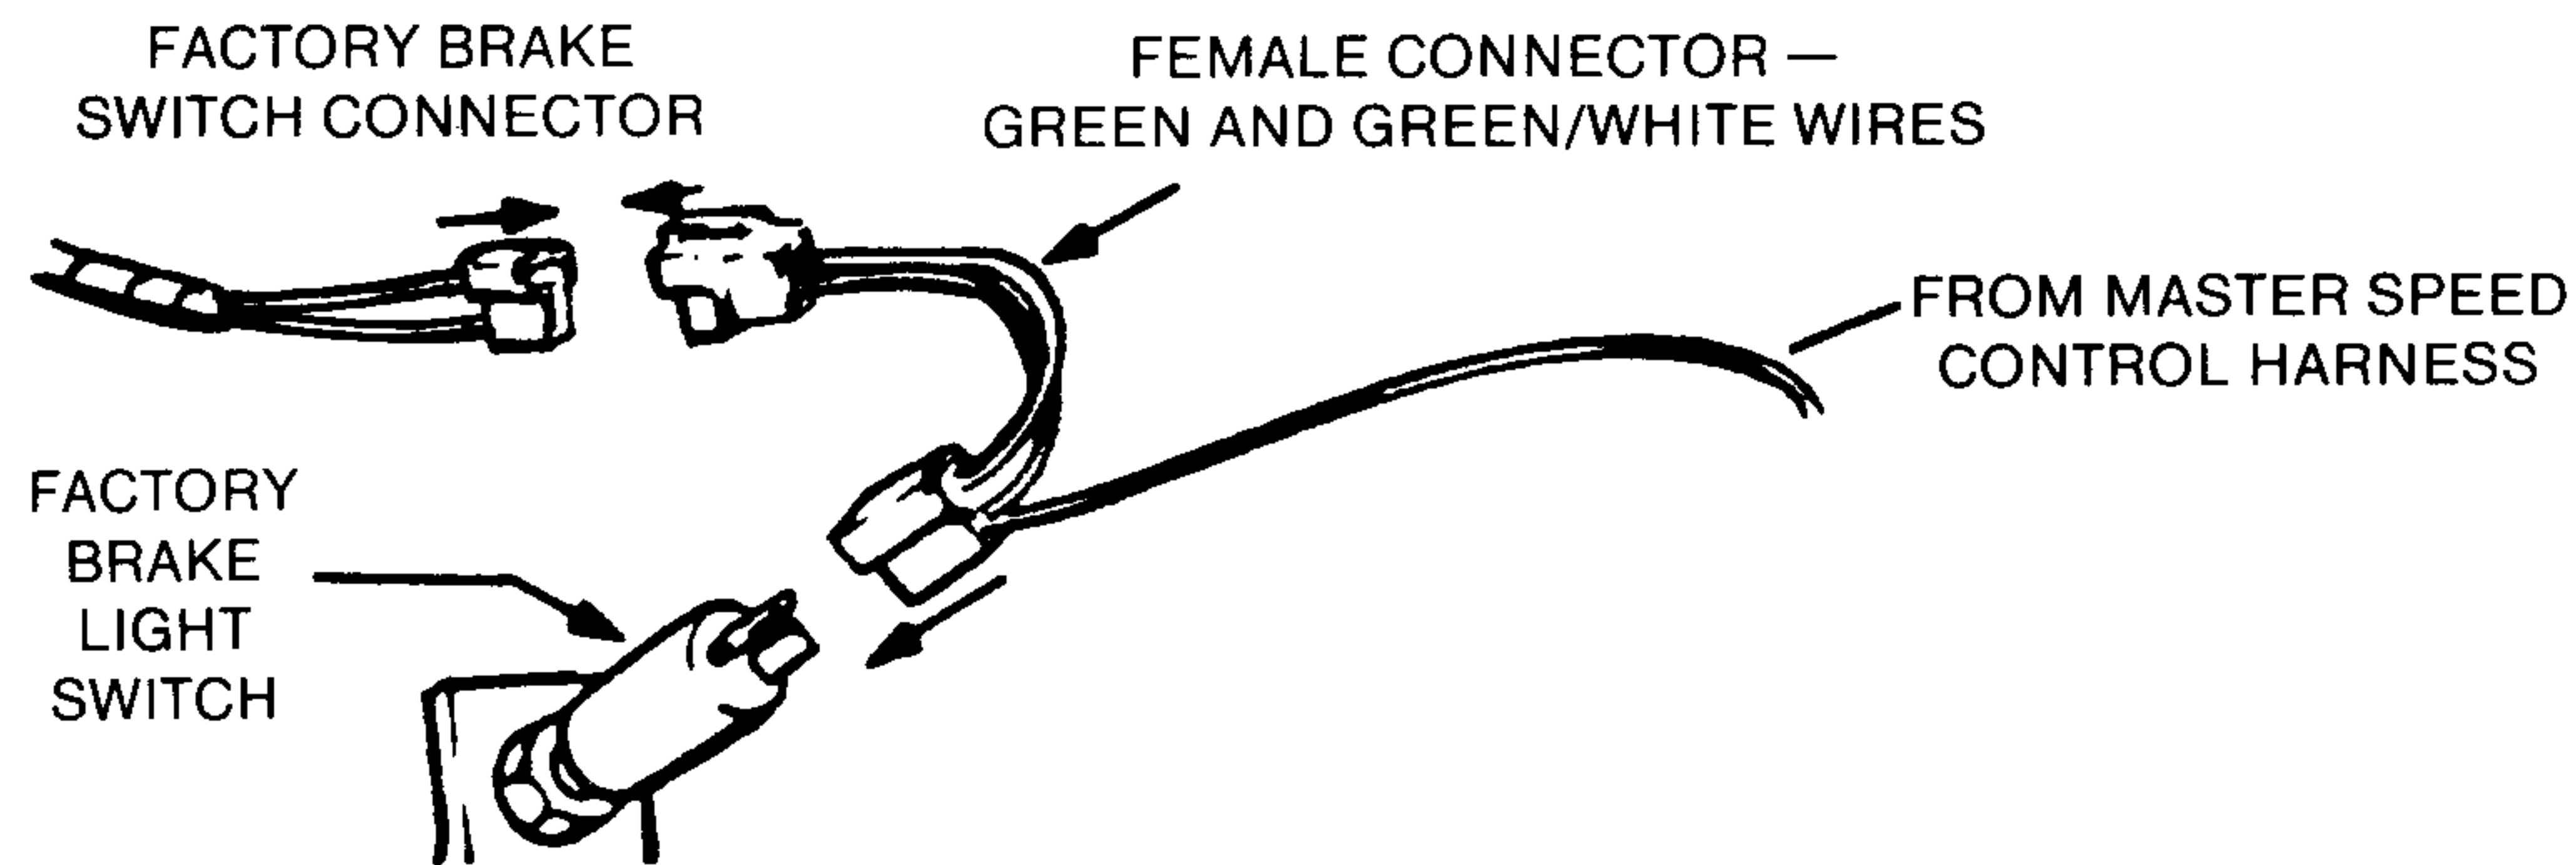

Figure 10
12. Disconnect the vehicle brake switch 2-position connector. Connect the (white) 2-position male connector from the cruise control master wire harness to the vehicle brake switch. Connect the male brake switch connector from the vehicle wire harness to the female connector from the master wire harness. See **FIGURE 10.**